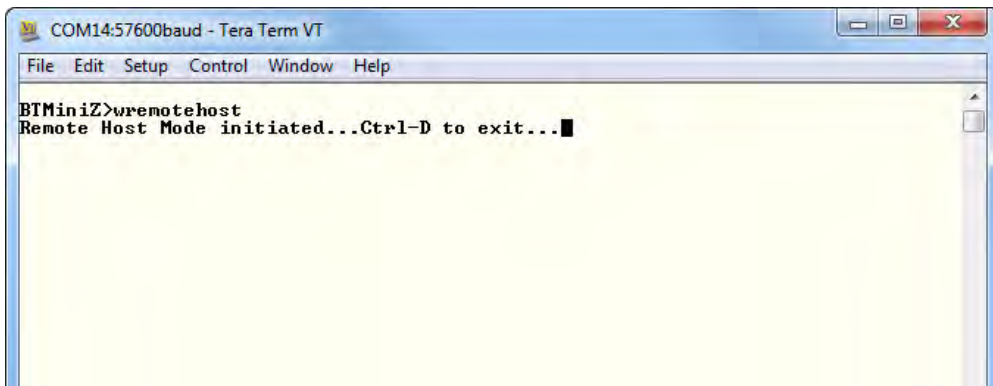

Figure 16. wRedirect Command Screen
9. On the second PC, enter the `wRemotehost` command at the `BTMiniZ>` prompt, as shown in Figure 16, then press Enter. A `<Remote>BTMiniZ>` prompt will appear on the PC from which the `wRedirect` command was issued.